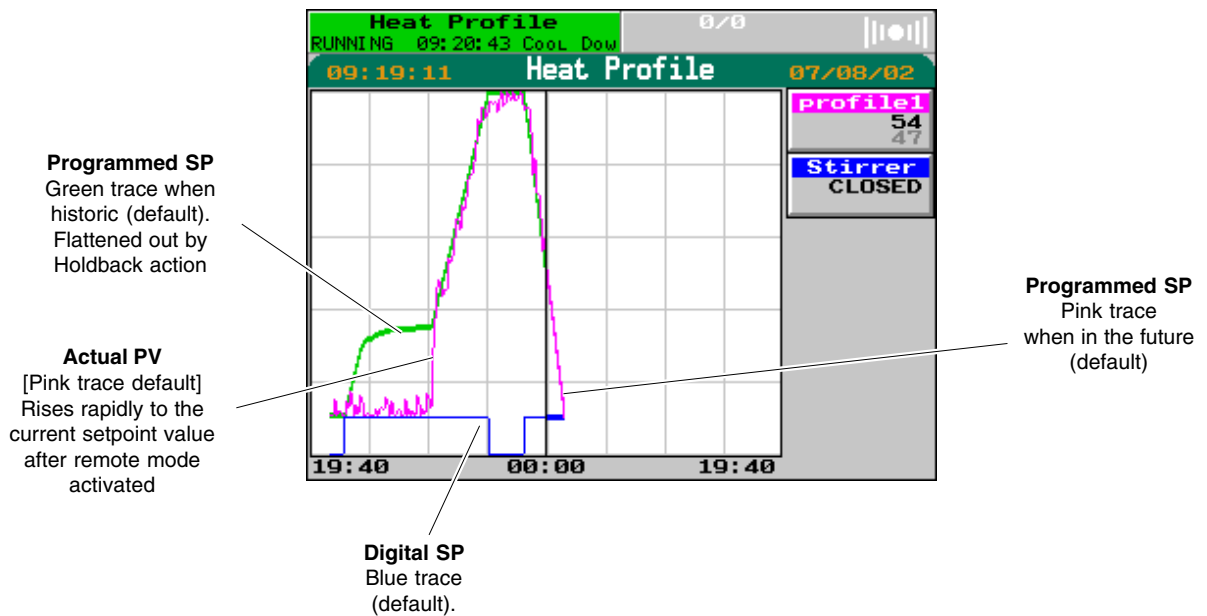

Figure 3-8 Preplot view of 'Heat Profile' (Cool Down segment)
- 8 To put this right, press the **Menu** softkey, then **SYSTEM, APPLN, FB MGR** to access the **FB Manager** window. Press the **‘pid’** block box to see the PID block parameters, scroll down to the **SelMode** field, press the yellow value pop up the **SelMode** menu. Set **SelRem** to TRUE to select remote mode and press return. Repeat for **EnaRem** to enable remote mode. Finally, press the program pane, then **PRE-PLOT**, and watch the progress. PV now shoots up rapidly to follow the programmed SP, which is released from holdback mode and resumes its intended path — see Figure 3-8.